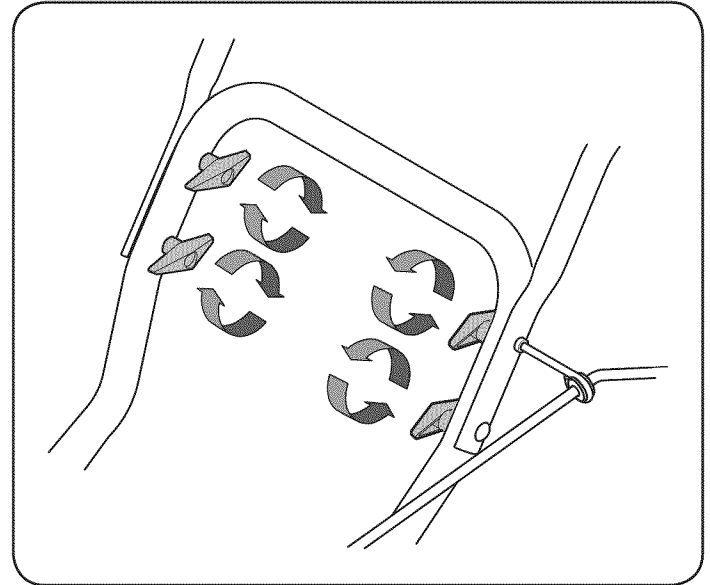

Figure 2
4. Secure the upper handle and lower handle with the two wing nuts, belleville washers, and carriage bolts removed earlier. Tighten the two wing nuts already installed in the upper holes to firmly secure the upper handle and support tubes. See Figure 2.